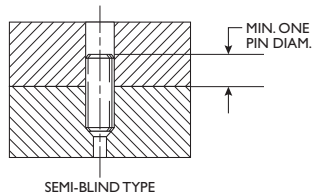

Fig. 12-7 Semi-blind type.
2. Fig. 12-7 shows a semi-blind type. The smaller hole serves as a vent and also as a knockout hole.